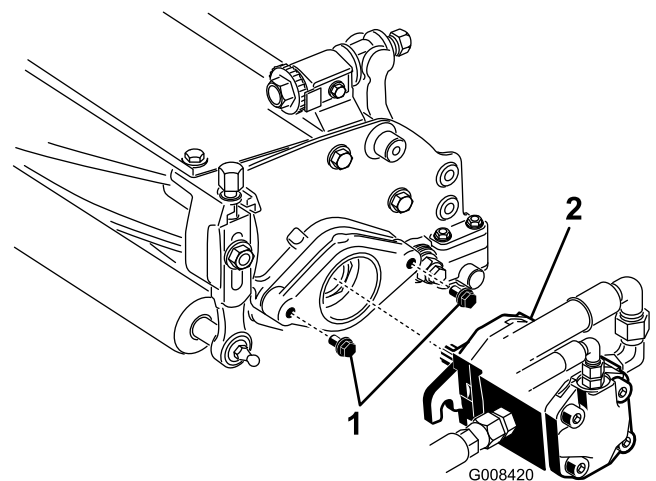

Figure 18
10. Assemble the mounting screws for the reel drive motor to each cutting unit. Leave approximately 1/2 in. (13 mm) of the threads exposed on each mounting screw (Figure 18).
counterclockwise until the flanges are encircling the studs (Figure 18).
13. **Tighten the mounting bolts** (Figure 18).